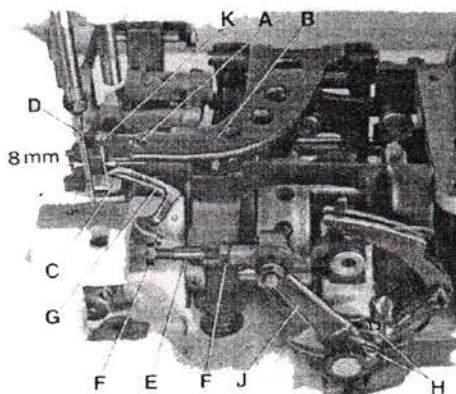
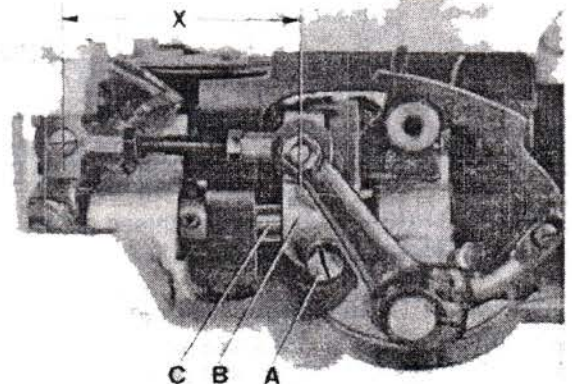
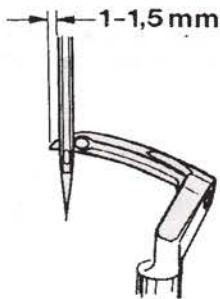
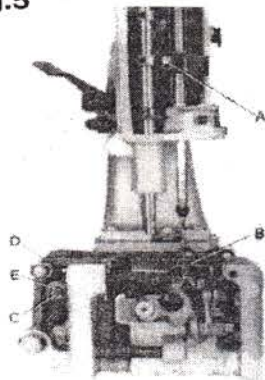

Fig. 3
Fig. 4
Fig.5
Fig.6
Remove the presser foot, throat plate and feed dog and on styles 80800 also the needle guard for convenient access to the machine. On style 80800 loosen the screw (A, Fig. 3) in the feed bar (B) and push the feed bar needle guard (C) to the rear to avoid its contacting the needle (D).
For the two thread double locked stitch style 80800, set the looper connecting rod (E) so the distance (X, Fig. 4) between the center lines of the two ball joints is 69.8 mm (2 3/4"). The dimension (X, Fig. 4) should be 68.3 mm (2 11/16) on the single thread chain stitch style 80800. For adjustment loosen the two nuts (F, Fig. 3) and turn connecting rod (E) forward or backward as required to obtain specified dimension, retighten nuts (F).
Rotate the machine pulley in operating direction so that the looper moves from right to left. The looper point should pass as close as possible to the back of the needle without contacting 0.08 to 0.13 mm (.003 to .005") clearance. For adjustment loosen screws (A, Fig. 4) in the looper eccentric fork (B) and turn looper rocker shaft (C) on the looper rocker forward or backward as required. Retighten Screw (A).
Remove the face cover on machine arm. Rotate machine pulley in operating direction until the looper point, moving to the left, projects 1 to 1.5 mm (.040" to .060") left to the needle (see Fig. 5). Lower edge of looper and upper edge of needle eye must be flush in this position. If adjustment is necessary, loosen clamp screw (A, Fig. 6) in the needle bar up or down, as required. Retighten screw (A) and remount face cover.
At highest point of feed dog travel, the feed dog (B, Fig. 6) should be set so, that the rear teeth project their full depth above the throat plate surface. For setting remove the feed dog and adjust the supporting screw (K, Fig. 3) on the top of the feed bar to the required height. Remount the feed dog, and on styles 80800 also the needle guard.
On Styles 80800 stud (C, Fig. 6) for changing the stitch length is accessible from the outside. On styles 80800 the housing for the tape cutter and the rear cloth plate have to be removed for changing the stitch length.
The length of the stitch can be adjusted by raising or lowering the stud (C, Fig. 6) in the segment slot of the feed rocker (D). Lowering stud (C) will lengthen the stitch. After loosening nut (E), stud (C) can be moved accordingly. When the desired stitch length is obtained, retighten nut (E).
The needle guard (C, Fig.3) has to be set so, that it just contacts the needle at its most forward point of travel, without deflecting it.
On style 80800 loosen screw (A, Fig. 3) in the feed bar (B) and adjust the needle guard (C) accordingly. Retighten screw (A).